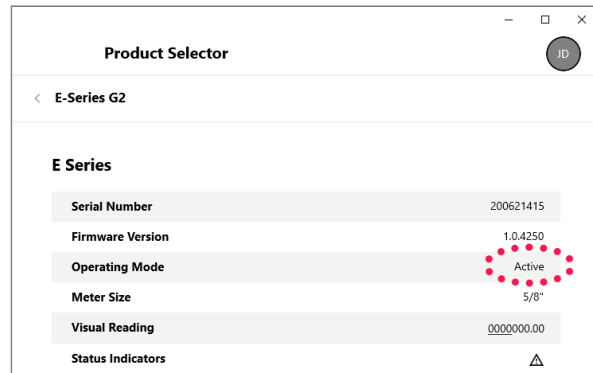

Figure 40: Meter in Active mode
3. The results screen refreshes (Figure 40), confirming the meter is in *Active* mode.